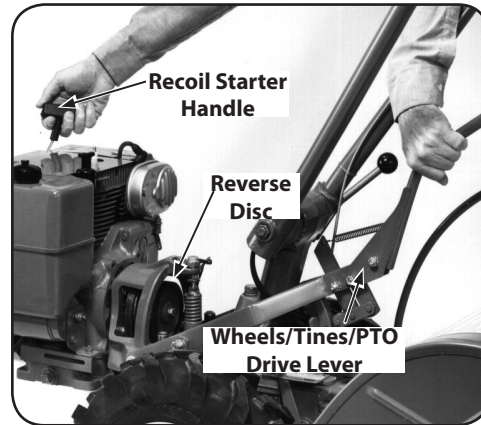

Figure 5-21
3. Use your left hand to hold the Wheels/Tines/PTO Drive Lever up in REVERSE, while briefly pulling out the engine recoil starter. The reverse disc should turn the lower pulley. See Figure 5-21. If not, or it requires a lot of pressure to hold the lever up in REVERSE, then the reverse adjustment bolt must be adjusted downward. When correctly adjusted, the Wheels/Tines/PTO Drive Lever should pop out of reverse when the lever is released, but not require exceptional effort to hold it up in the reverse position.